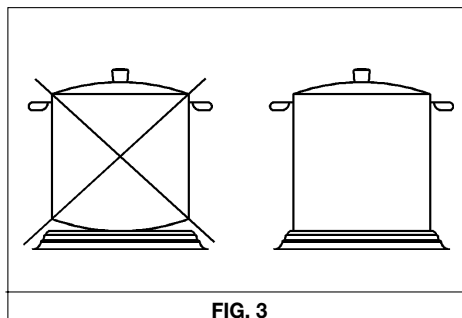

FIG. 3
- *To always use pans with flat and very thick bottoms (see fig. 3).*